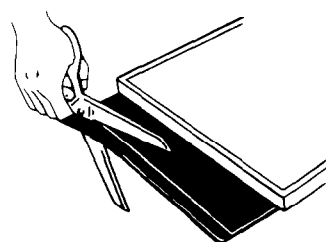

FIGURE 16
5. Use a pair of scissors and cut toe plate along this line. See Figure 16.